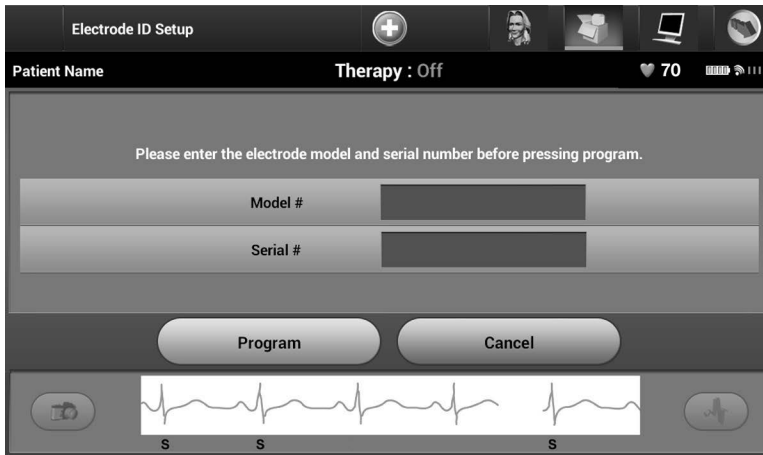

Figure 20: *Entering electrode information*
5. Enter the electrode model and serial number (Figure 20).